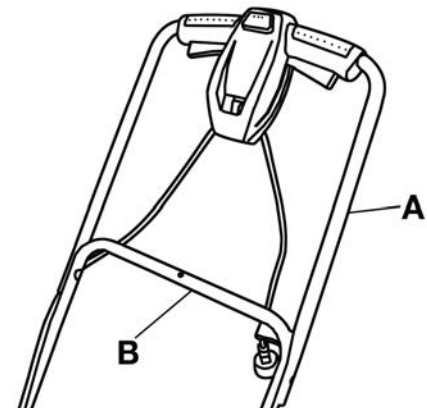

FIGURE 6
4. Hold the upper frame (A) Fig.6 so that the screw holes align with the holes in the middle frame (B).